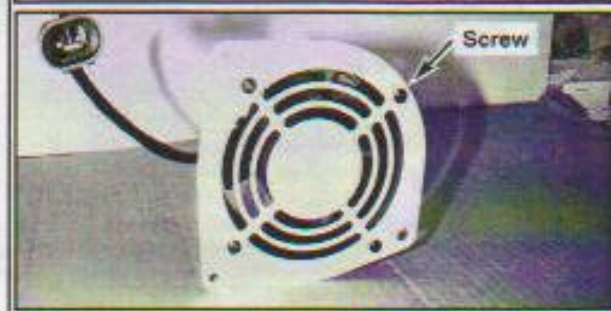

Figure 1. Install Fan Bracket
3. See Figure 1. Install fan (P/N Y0050.K) (oriented as shown) to fan bracket (P/N R0050.K) using 4 black nylon spacers (P/N C0121.K), screws (P/N AN0810.3CBL) and Nylock nuts (P/N DN0800.2CZ). Tighten hardware to 12.4-15.4 in-lbs (1/4-1.7 Nm).